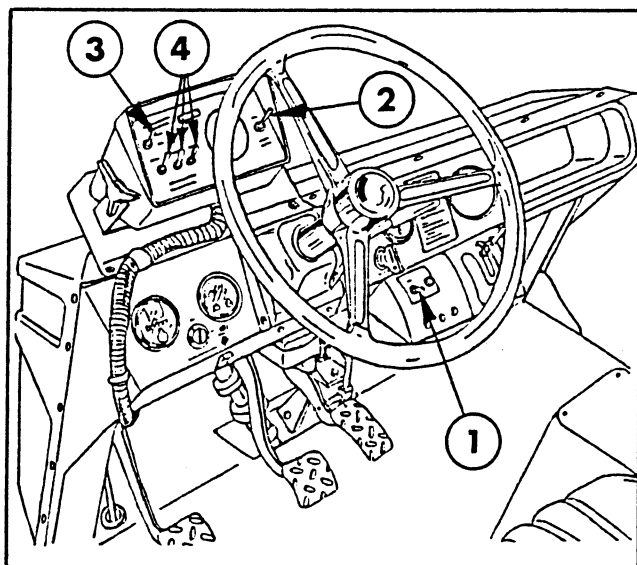

FIG. 1
(FIG 1): This switch located on the lower dash panel, when moved to the "ON" position, engages the pump drive belt. Move the switch to the "OFF" position to disengage the pump drive belt.
**PRESSURE ADJUST SWITCH** (FIG 1): Hold to INCREASE or DECREASE spraying pressure to desired level. Located on Control Console.
**MASTER ON/OFF SWITCH** (FIG 1): Activates all three Boom Valves to control the flow of spray solution to the Boom sections. Located on Control Console.
**INDIVIDUAL BOOM ON/OFF SWITCHES** (FIG 1): Allows individual selection of Boom sections and controls the flow of spray solution to left (Boom #1), center (Boom #2) or right (Boom #3) Booms.